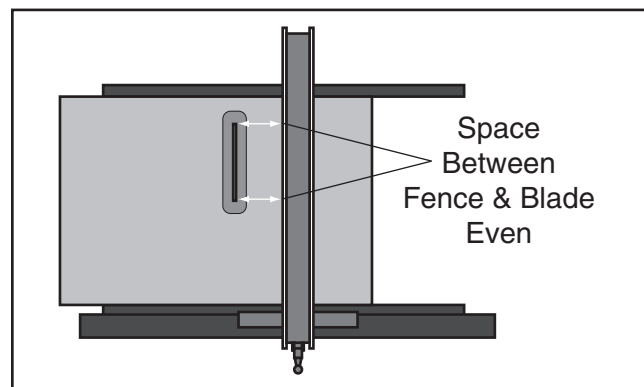

Figure 125. Example of fence aligned parallel with miter slot.
- Rotate blade 180° (see **Figure 125**), and recheck distance between fence and blade tooth you marked in **Step 4** to ensure they are parallel.